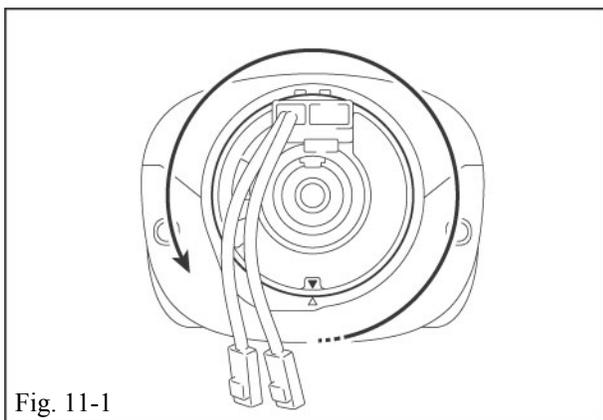

Fig. 11-1
- (1) Be cautious not to scratch the design face with the the stalk of the switch when installing it.
- (2) Make sure that harness of the cruise control switch assembly does not interfere with moving section or is not caught in the section.
- (b) Carefully turn the spiral cable counterclockwise all the way until it will no longer turn. (Fig. 11-1)